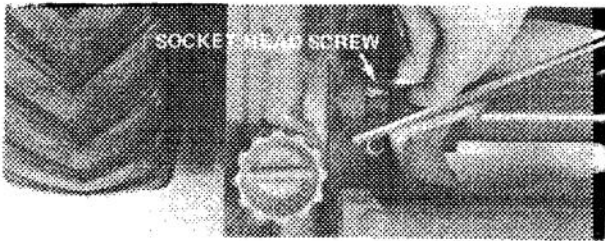
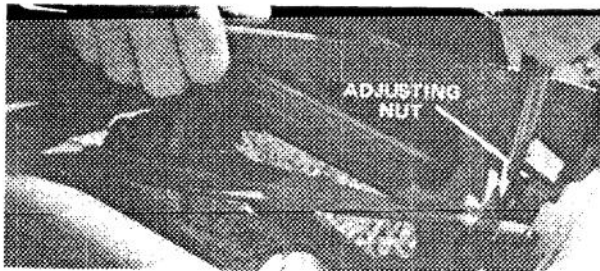

Figure 44
Figure 45
31. Loosen socket head set screws in reel bearing adjusting nuts with a 7/32" Allen wrench (Fig. 44). In small increments, rotate the adjusting nut (Fig. 45) in normal direction that reel turns to remove all end play from the reel. Make sure to hold reel so it cannot rotate (Fig. 45).
NOTE: Insert punch and try to turn adjusting nut after set screws are tightened (Fig. 45). If nut can be turned, remove set screws, lubricate screws with oil, and reinstall them tightly — 150 in.-lb (16.9 N·m).